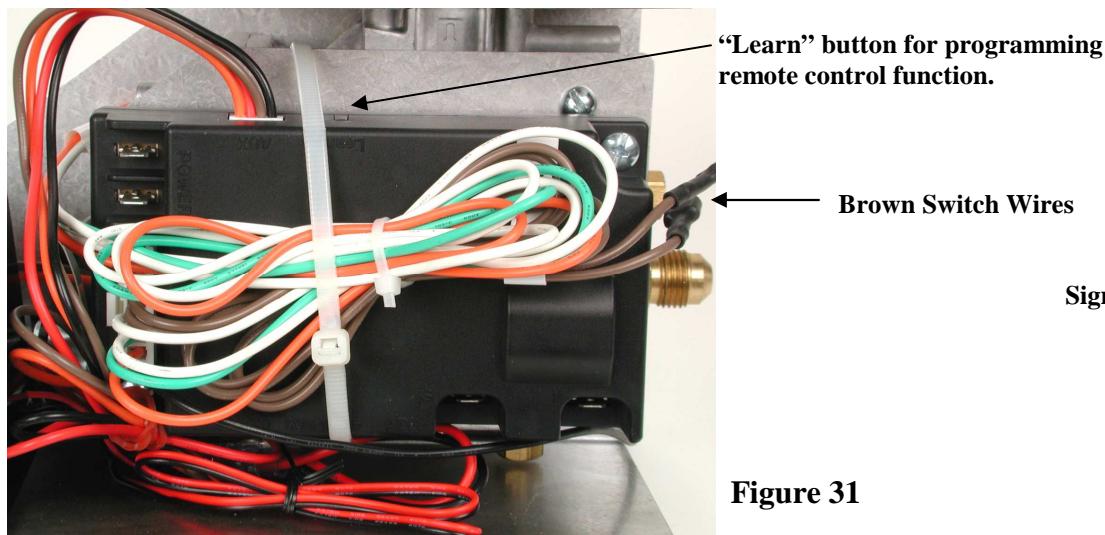

Figure 31
- 2) Press and release the “LEARN” button on the top of the Control Module (Figure 31), which will then make a beep sound. After this, press any button on the hand-held Transmitter. Once the Control Module’s internal receiver accepts the transmitter code there will be a series of confirming beeps.
- 2) Connect SmartHouse system to the two Brown Switch Wires (Figure 31).